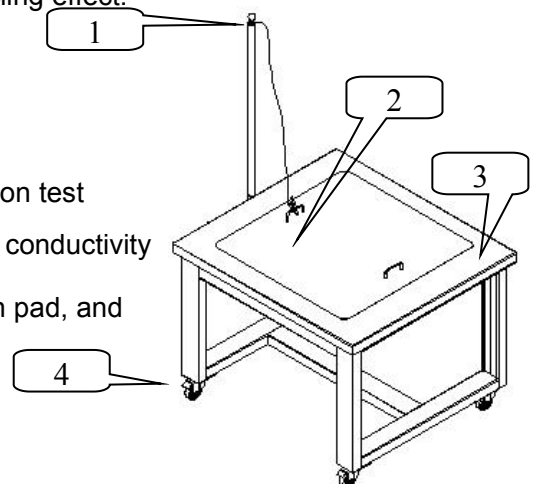

Figure 4 Insulation pad tester
4) Installation of working table:Place the working table as shown in figure 4 and fix the work surface with the wood screws provided.